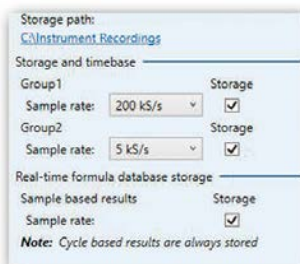

Fig. 9.28 Storage and timebase
- E Data for **Group1** is recorded at 200 kS/s and stored, for Group 2 at 5 kS/s and also stored (see Fig. 9.28)